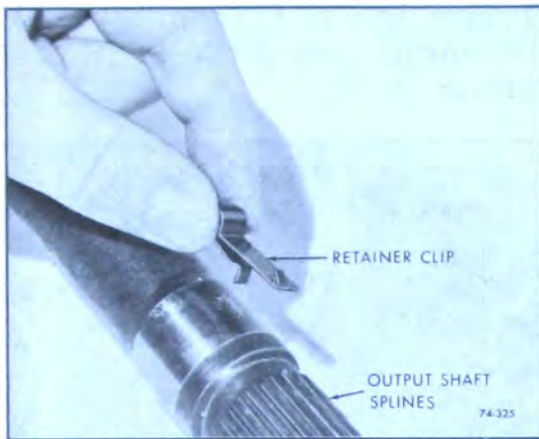

Figure 74-325
1. Place retainer into hole in output shaft. See Figure 74-325.